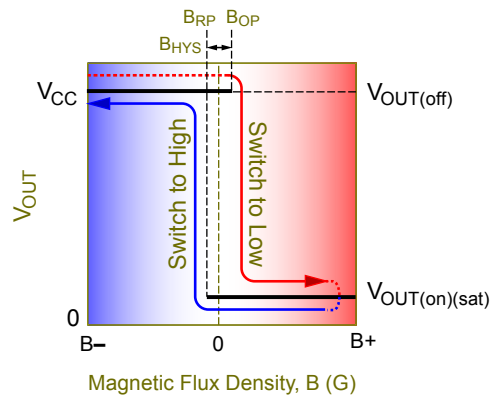

Figure 4A. Latch mode characteristic. Note that the switch point hysteresis zone,  $B_{HYS}$ , includes the neutral flux density level,  $B = 0$  G.
1. For purposes of explanation of figure 4A, assume the device powers-on with the magnetic flux density at the far left, where the magnetic flux ( $B$ , on the horizontal axis) is more negative than  $B_{RP}$  or  $B_{OP}$ . Here the device is off, and the output voltage ( $V_{OUT}$ , on the vertical axis) is high.